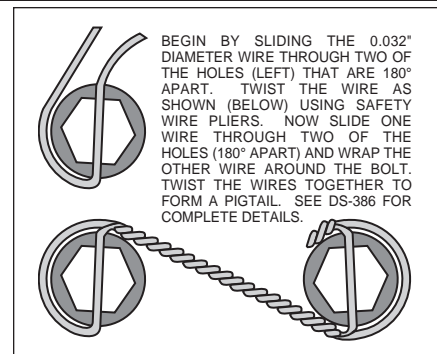
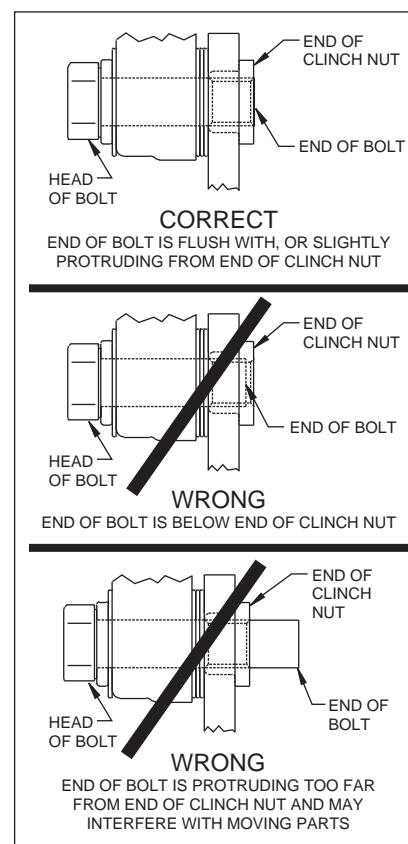

Figure 4. Safety Wire Diagram
Figure 5. Clinch Nut Engagement Diagram
CAUTION: All mounting bolts must fully engage insert nuts. Be sure to check that all bolts are either flush or protruding through flanged side of insert nut after shimming, Figure 5.
- The rotor (3) has two sides. A flat side and an inset side. Bolt hat (2) to flat side of rotor (3) using bolts (5). Using an alternating sequence, apply red *Loctite*® 271 to the threads and torque bolts to 25 ft-lb. Safety wire bolts using standard 0.032 inch diameter stainless steel safety wire as shown in Figure 4. Please refer to Wilwood's data sheet DS-386 (available at www.wilwood.com/Pdf/DataSheets/ds386.pdf) for complete safety wire installation instructions.
- Align the correct hole pattern in the hat (2) with the stud pattern on the axle flange. **NOTE:** Some OEM and after market axles come with stud sizes larger than 0.50" diameter. Verify stud size and have a qualified machine shop drill the hats to the correct size. Slide the hat/rotor assembly (2 and 3) over the wheel studs and against the axle flange face.
- NOTE:** Please reference the caution statement at the beginning of the assembly instructions. Mount the caliper (6) over the rotor (3) and onto the caliper mounting bracket (1) using washers (7) and mounting bolts (8). View the rotor through the top opening of the caliper. The rotor should be aligned in the center of the caliper. If not, adjust the caliper by using 0.032 inch shims (9) by placing them between the caliper mounting bracket (1) and the caliper (6). Add as many shim washers (7) as necessary to achieve the correct alignment. **NOTE:** The end of the bolt must be flush with or slightly protruding from the head of the clinch nut. See Figure 5. Place spare shims (7) between washer and caliper mounting ear to achieve the proper mounting fastener configuration. Always use the same amount of shims on both the top and bottom caliper mounting bolts (8). Apply red *Loctite*® 271 to the mounting bolt threads (8), torque to 40 ft-lb. Caliper mount bolts may be safety wired for additional security.
- Position the Wilwood disc brake pads (10) into the caliper (6) and fasten with cotter pin (4). Steel backing plate side of brake pad should face the caliper pistons.